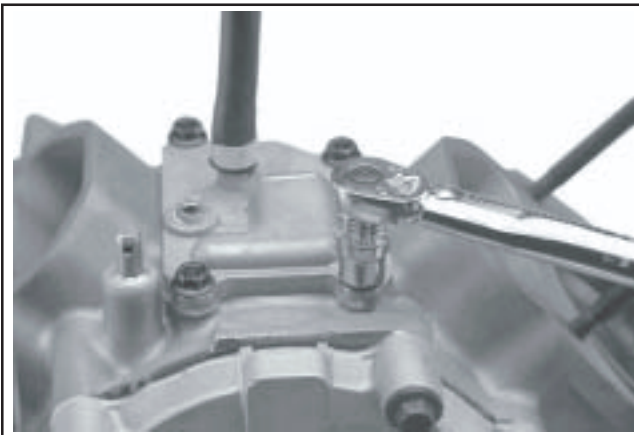

Figure 11-25. Installing and Torquing Breather Cover/Screws.
5. Carefully install the breather cover gasket and breather cover onto the crankcase. See Figure 11-25.